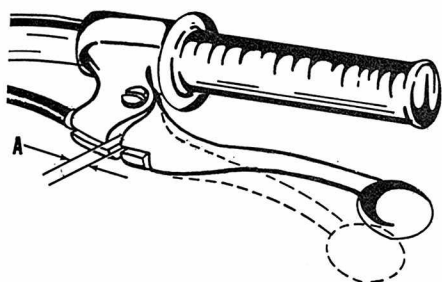
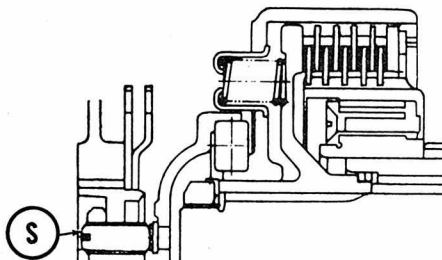

Fig. Y5-9—The clutch hand lever should have  $\frac{1}{16}$ - $\frac{1}{8}$ -inch free play at (A).
Fig. Y5-10—The clutch adjusting screw (S) is located under the small, round cover on engine left side cover.
**CLUTCH CONTROLS.** The clutch hand lever should have  $\frac{1}{16}$ - $\frac{1}{8}$  inch free play at (A—Fig. Y5-9). To adjust, remove the cover from left side of engine and loosen lock nut. Turn the adjusting screw (S—Fig. Y5-10) in until slight resistance is felt, then back screw out  $\frac{1}{4}$  turn and tighten lock nut. Turn the cable guide at ends of cable until the hand lever free play (A—Fig. Y5-9) is correct.